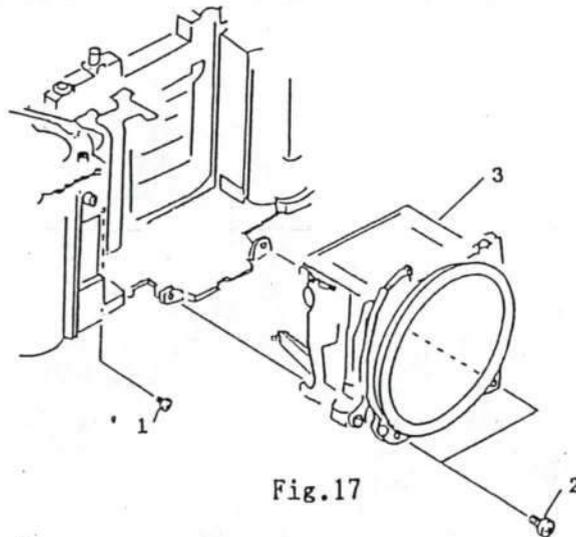

Fig.17
- (1) Remove the LENS LOCK BUTTON (No.1)
- (2) Take off four SCREWS (No.2,3) and remove the FRONT COVER (No.4)
13. Mirror Box U (Fig.17)